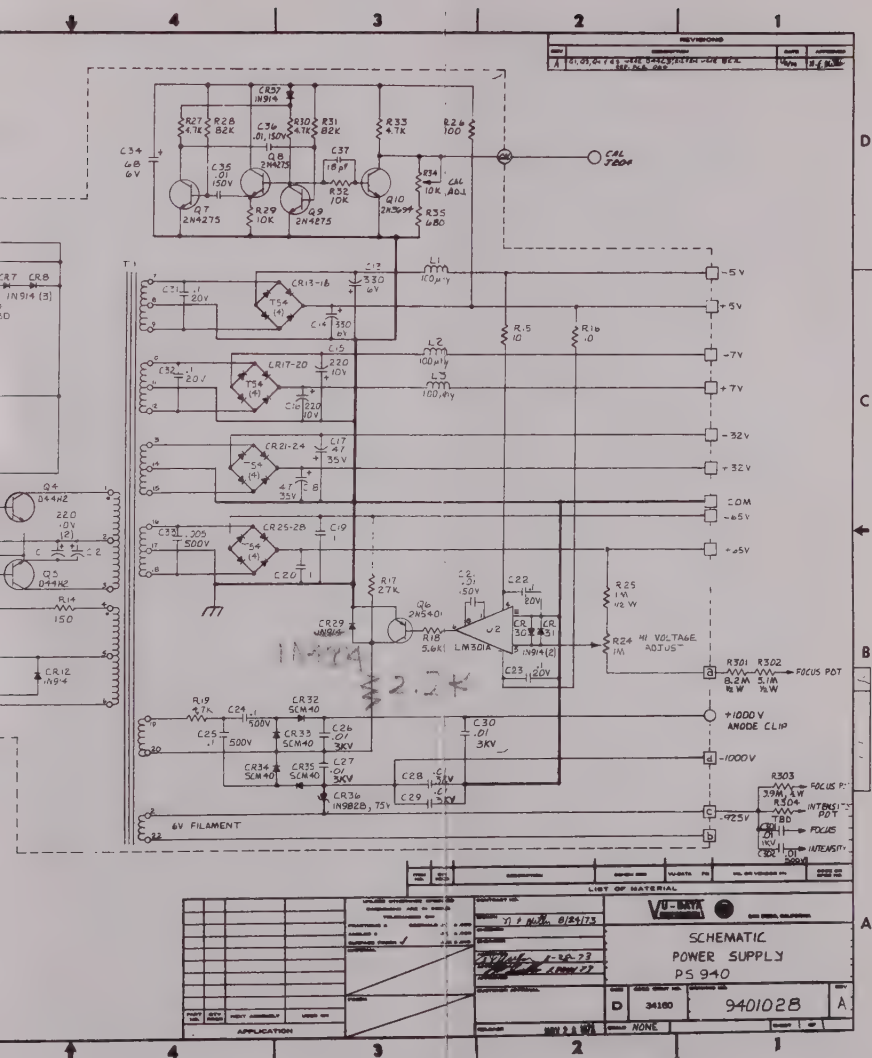

Figure 7-3. Power Supply Assembly Schematic 9401028
- Figure 7-3. Power Supply Assembly Schematic 9401028